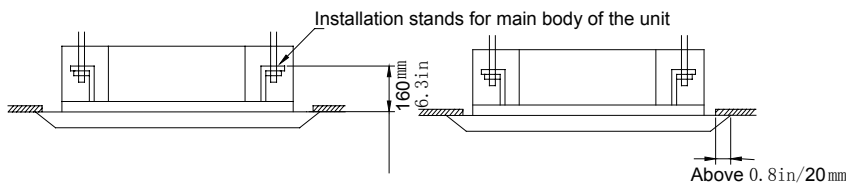

Fig.3
(3) Adjust the unit to the suitable installation location. (Refer to the fig.3)
(4) Check to ensure the unit is horizontal.